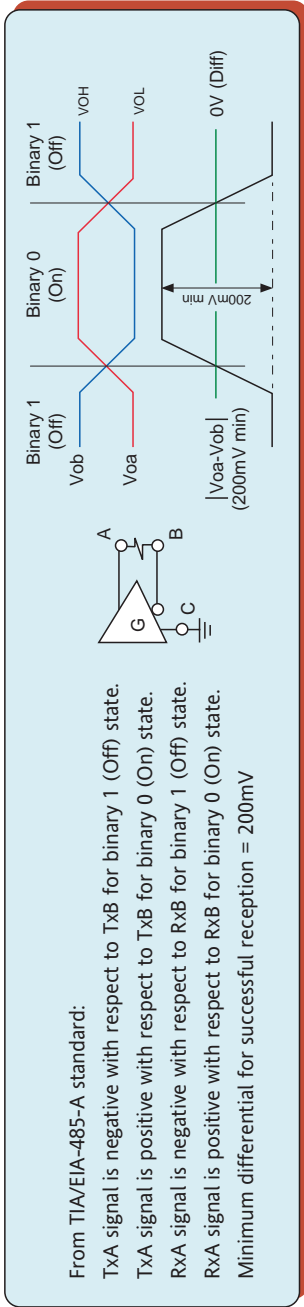
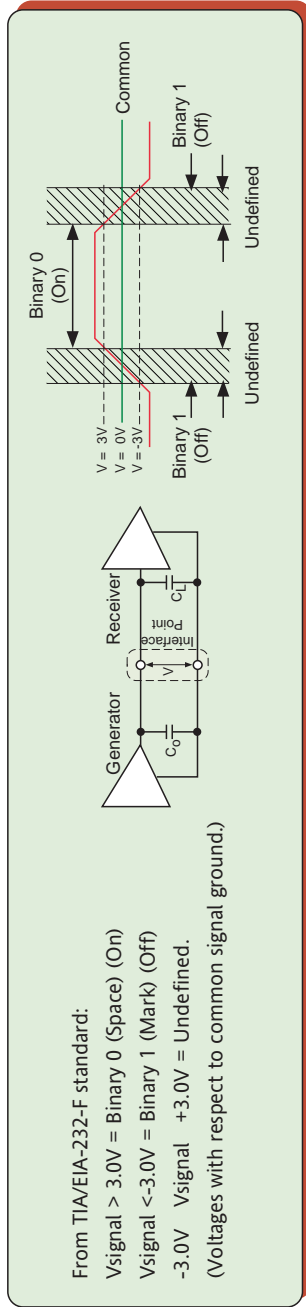

Figure 3 Signal levels for EIA485
Figure 4 Signal levels for EIA232
1. Many instruments have internal pull-up and pull-down resistors fitted. These are normally of a high value, such as 100k Ω . This manual recommends that these be supplemented by the 4k7 resistors described above, but in all cases a minimum signal differential of 200mV is the defining parameter (figure 3, below), and the selected resistor values must be chosen such that this minimum signal value is maintained.
Figure 3 defines the signal levels for EIA 485, and Figure 4 shows the signal levels for EIA232. These figures are derived from the relevant standards, and these standards should be consulted for more details.